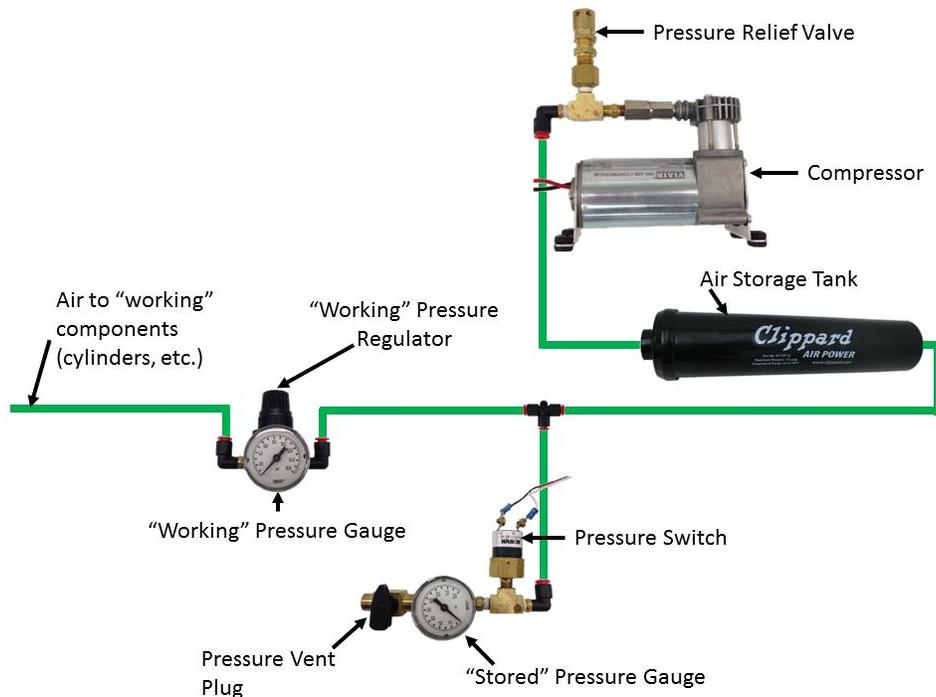

Figure 9-14 Pneumatic circuitry
- R78.** If pneumatic COMPONENTS are used, the following items are required as part of the pneumatic circuit and must be used in accordance with this section, as illustrated in Figure 9-14.
- A.** One (1) *FIRST* Robotics Competition legal compressor (per R79)